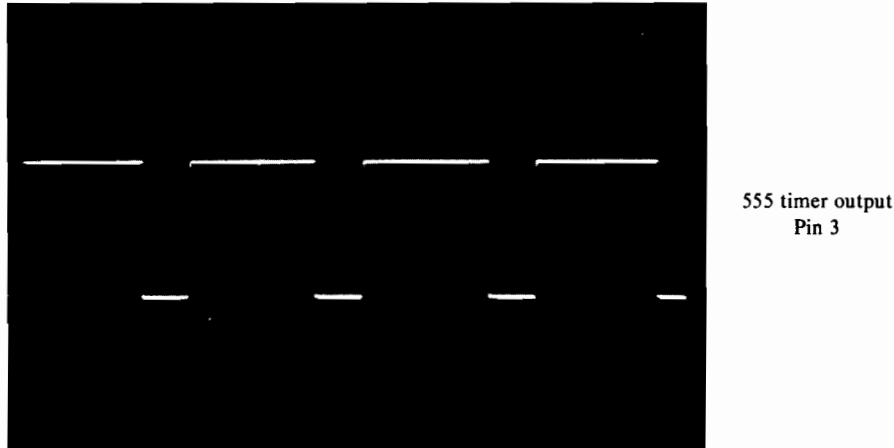

FIGURE 36–3 555 timer output, pin 3.
2. Apply power to the breadboard. You should see a waveform that switches back and forth between ground and the +5-V supply voltage, similar to that shown in Figure 36–3. Measure the output frequency, and compare it to the value that you would expect based on the values of R_1 , R_2 , and C (Equation 1). Record your results in Table 36–1.